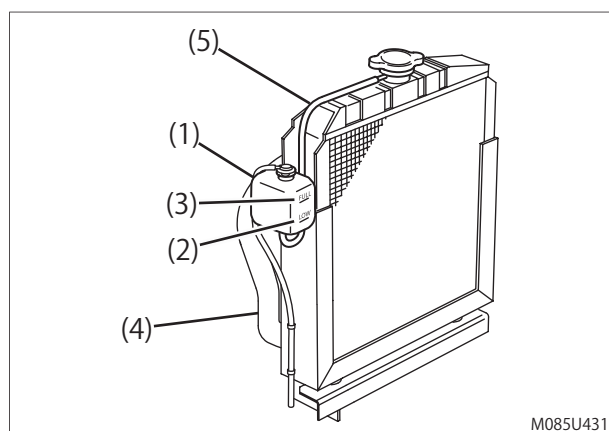

fig. 7-5
- (1) Make sure the machine is level.
- (2) Make sure the engine and all systems are turned off and the emergency stop buttons are depressed.
- (3) Check the level of engine coolant in the reserve tank (fig. 7-5, 1). When the engine is cold, the coolant level in the tank should be at or slightly above the "LOW" (COLD) mark (fig. 7-5, 2) on the coolant reserve tank. If the coolant level is at the "FULL" (HOT) mark (fig. 7-5, 3) when the engine is cold, the coolant will expand when it becomes hot and possibly spray out of the overflow hose.
- (4) Add additional engine coolant to the reserve tank if necessary.
- (5) Check the radiator hoses (fig. 7-5, 4) for cracks, abrasions, cuts or other damage. Replace as necessary.
- (6) Check the hose (fig. 7-5, 5) that connects the reserve tank (fig. 7-5, 1) to the radiator. Be sure it is securely connected and there are no cracks or damage. If the hose is damaged, engine coolant will leak out instead of going into the reserve tank.